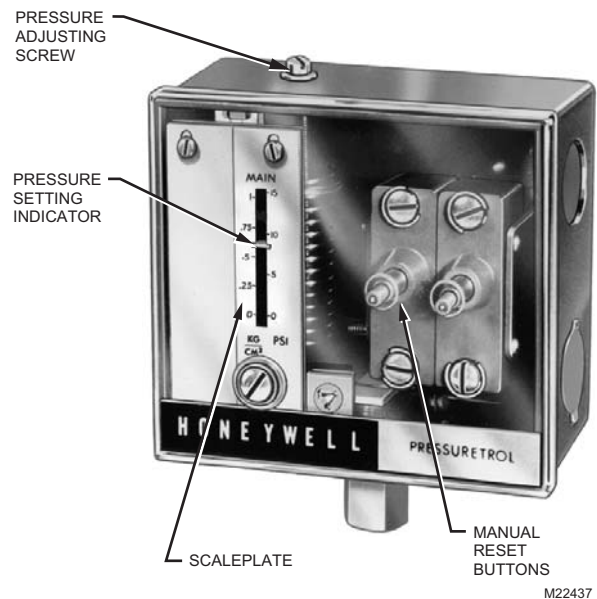

Fig. 3. Controls and indicators on L4079A. L4079B,W is the same except for having only one reset button.
To set the control, turn the pressure adjusting screw (see Fig. 3) until the pressure setting indicator on the front of the case is in line with the required control pressure setpoint. The indicator setting is the point at which the switch breaks contact.
2. Rotate the PressureTrol® pressure adjusting screw (see Fig. 3) until the pressure setting indicator on the front of the case corresponds to the boiler pressure gauge reading.